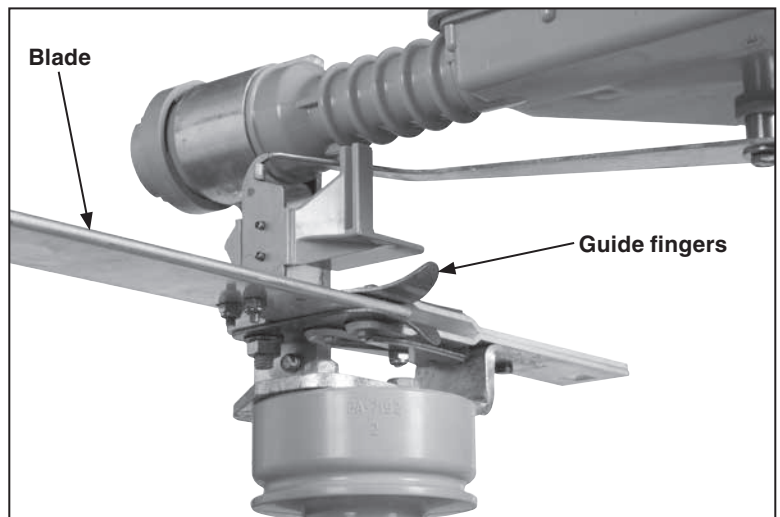

Figure 23. Blade and contact assembly in the fully-closed position.
- a. With the operating handle as far as it will go in the closing direction, all main contacts of the interrupter switch are in the fully-closed position. See Figure 23.